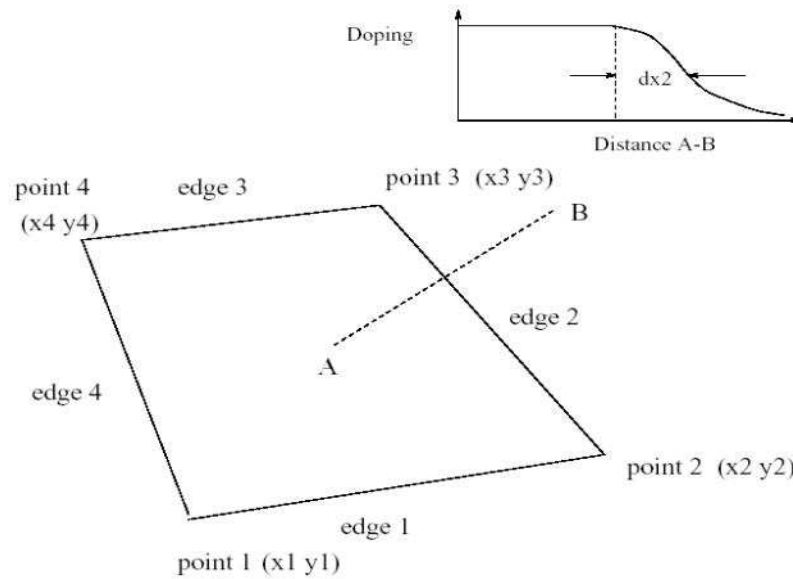

Figure 2.9: Schematics for the Polygon doping profile. Note the labeling of points and corresponding edges.
The profile in the y-direction is similar. Such a profile can be used to define a uniform profile and different types of Gaussian profiles. Repeatedly using this statement in small regions can create many different types of doping profiles. If the **shape** is defined as “polygon”, an arbitrary polygon can be defined within which the doping is uniform. The dopant concentration falls off with a Gaussian tail on the edges of the polygon (see Fig. 2.9).
- **edgei_prof** provides the i th point coordinate of the polygon and Gaussian tail of the i th edge. Note that the i th edge is the line between the i th and $(i+1)$ th point (see Fig. 2.9). It is used only when “polygon” is chosen for **shape**.